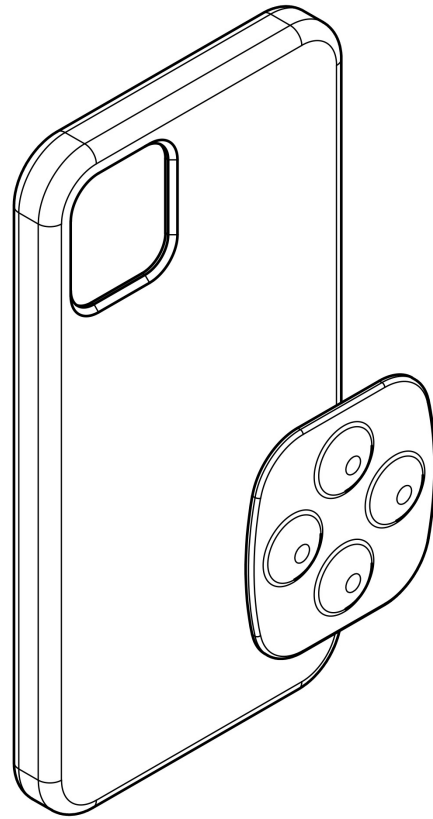

FIGURE 4
- 4) Position and press case side plate onto phone case "Figure 4"